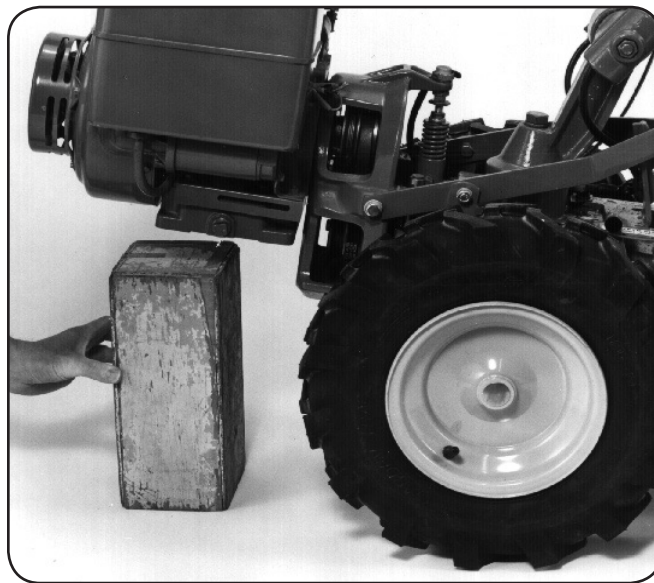

Figure 5-19
3. Place a sturdy support under the engine to prevent the engine from tipping forward when the tine attachment is removed. See Figure 5-19.